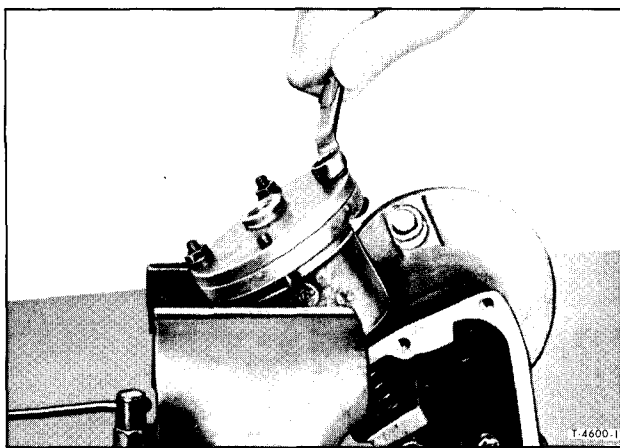

Figure 35—Piston Cover Removal or Installation
3. Position housing in vise as shown in figure 35.